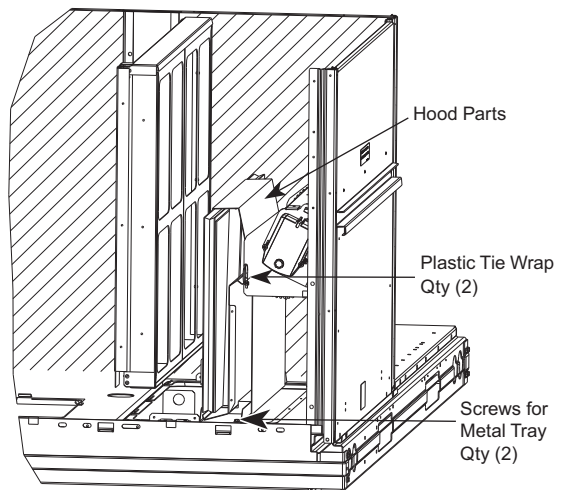

Fig. 11 — Economizer Hood Package Location
3. Locate the (2) screws holding the metal tray to the basepan and remove. Locate and cut the (2) plastic tie-wraps securing the assembly to the damper (see Fig. 11). Be careful to not damage any wiring or cut tie-wraps securing any wiring. The